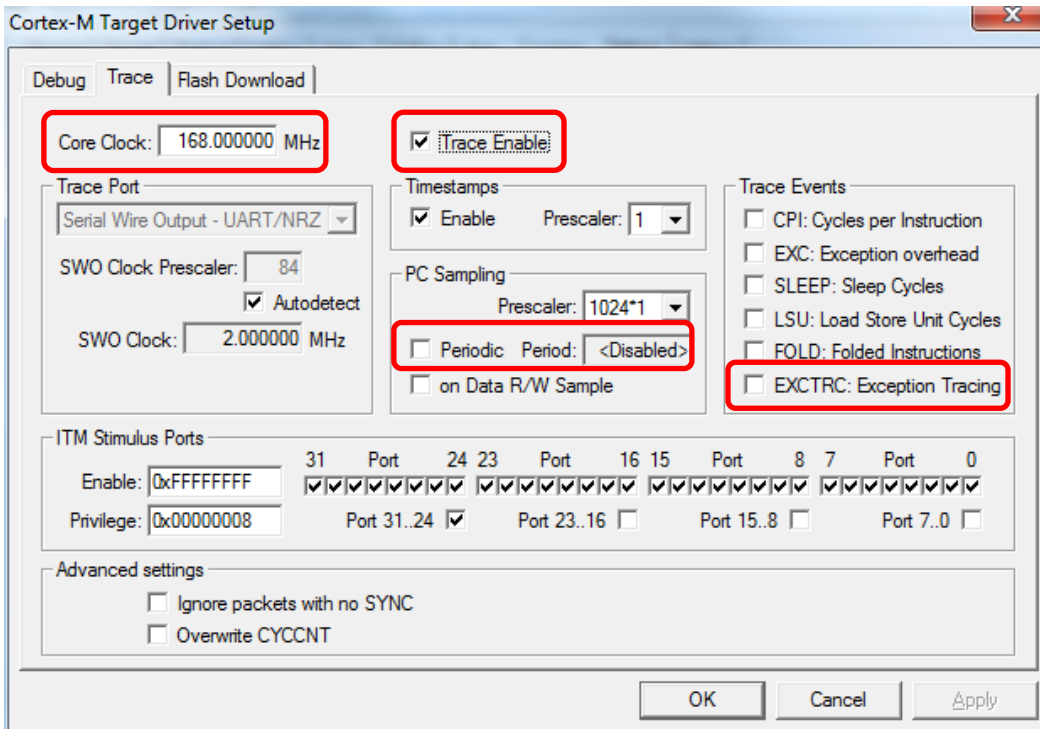

Figure 5. Target options to configure the logic analyzer tool.
- b. Select the Trace tab, shown in Figure 5. Select **Trace Enable**. Unselect **Periodic** and **EXCTRC**. Set **Core Clock** to the frequency that you have set for the core of your microcontroller. (168 MHz was used for the project shown in Figure 5.) Click OK to return to the Debug tab.